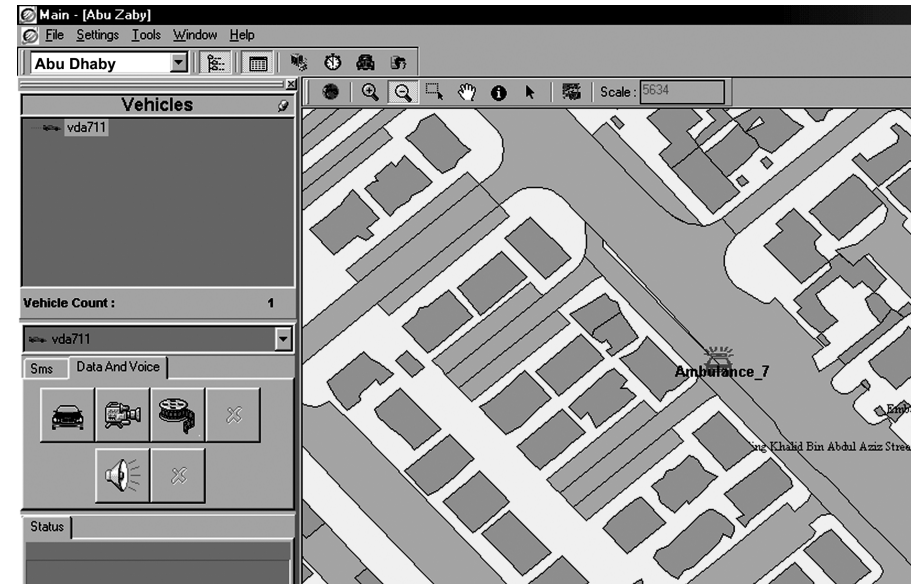

FIGURE 15 Part of Sample SVTS Screen on Detailed Street Map
- Displaying vehicle information on digital maps as in Figure 15 either by plotting the current coordinates or by drawing the routes followed over a specified period.